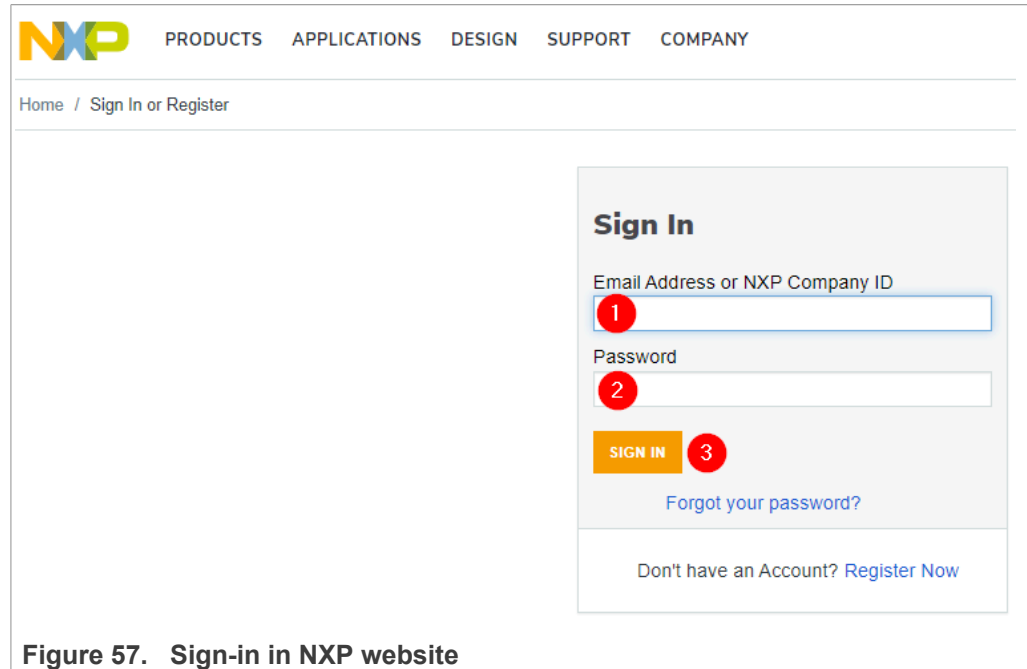

Figure 57. Sign-in in NXP website
- If you already have an account, you can directly type your (1) email address, (2) password and (3) click sign-in button as shown in Figure 57: